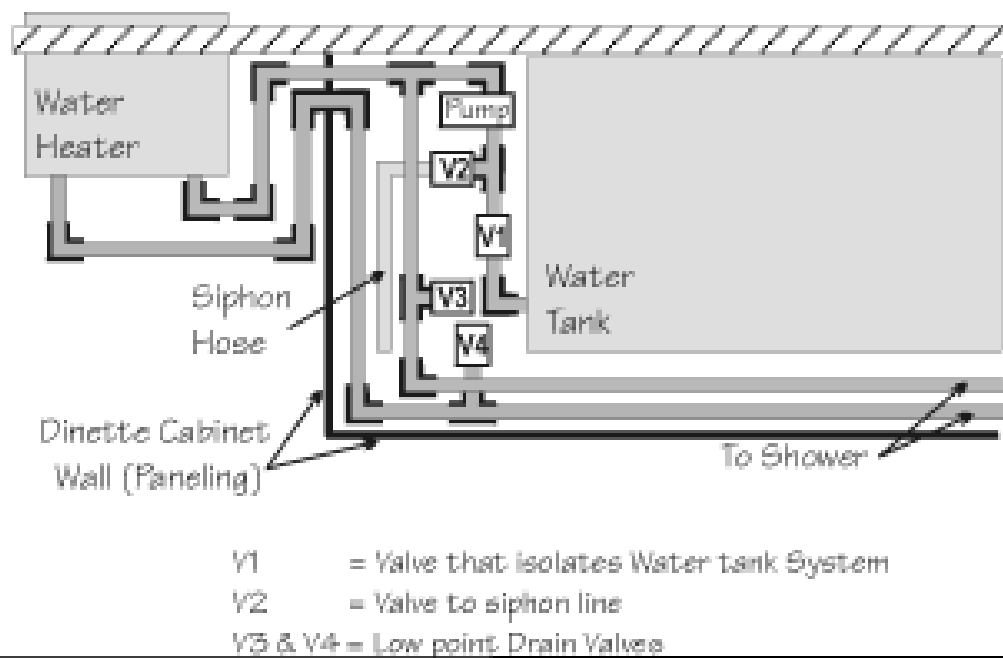

Fig. 4-4
1. Drain all tanks and fresh water lines by opening tank drain valve  $V_3$  &  $V_4$  (Fig. 4-4). Tank drain is outside left front corner of camper. Also open all faucet valves for air to replace water space. Lines may not drain completely if faucets are not open.